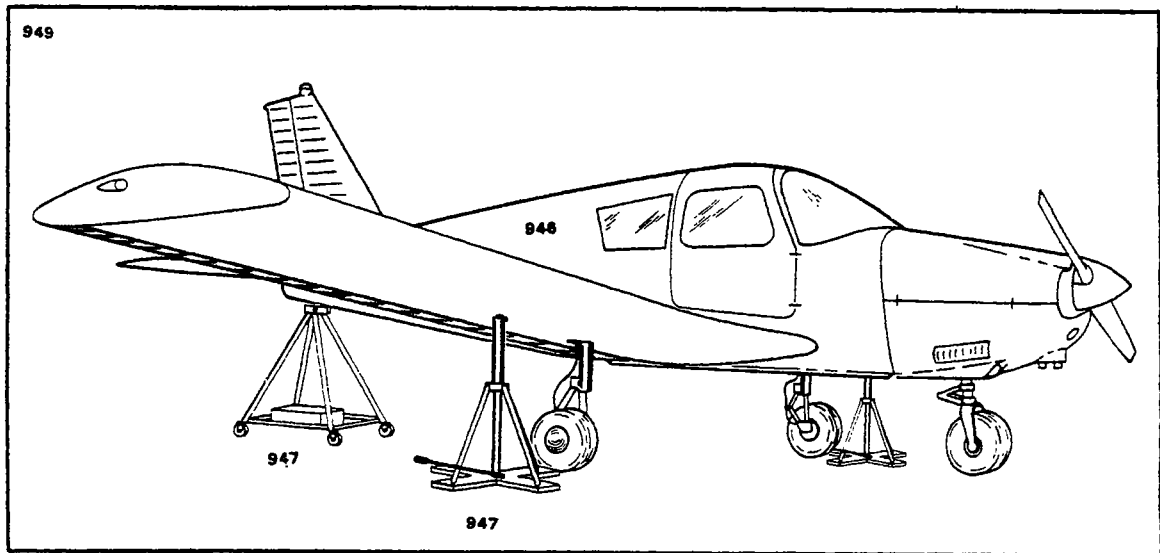

Figure 2-32. Jacking Arrangement
- a. Place jacks under jack pads on the front wing spar. (Refer to Figure 2-32.)